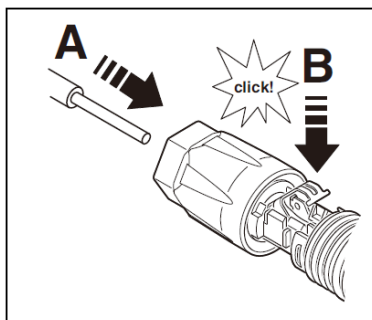

Figure 5-12
- 4) Carefully insert the stripped wire with twisted conductors all the way in (Figure 5-12, A). The litz wire ends have to be visible in the spring.
- 5) Close the spring. Make sure that the spring is snapped in (Figure 5-12, B).